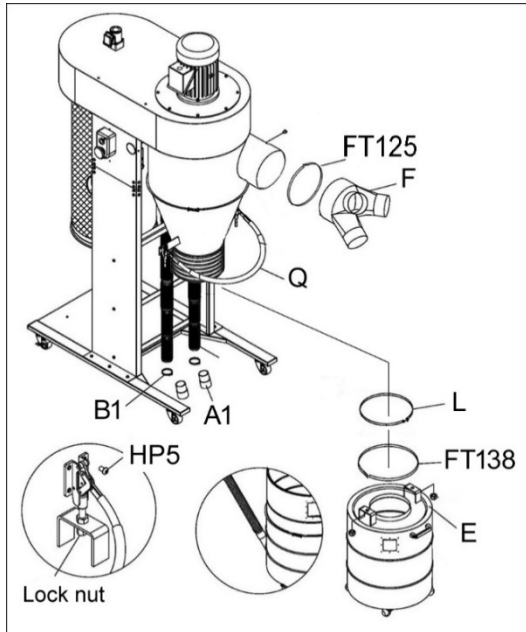

Figure 5-10
20. Paste 1Wx25L inch foam tape (FT125) around the inlet port at its edge. Trim excess. See Figure 5-10.
21. Push inlet adaptor (F) onto housing inlet and tighten with screw.
22. Paste 1Wx38L inch foam tape (FT138) around flange of drum lid (E).
23. Roll drum beneath cone and work hose on to drum lid. Secure with hose clamp (L).
24. Install quick lever (Q) to flanges of cone with button head screws (HP5, see inset). Then connect bottom of handle to drum lid with hex nut on top and lock nut underneath.